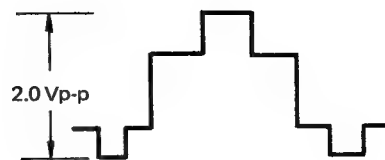

Figure 8-27.
2. Monitoring TP402 with an oscilloscope (external trigger at TP511), adjust R476 (PB LEV) to make to 2.0 Vp-p (see Figure 8-27).